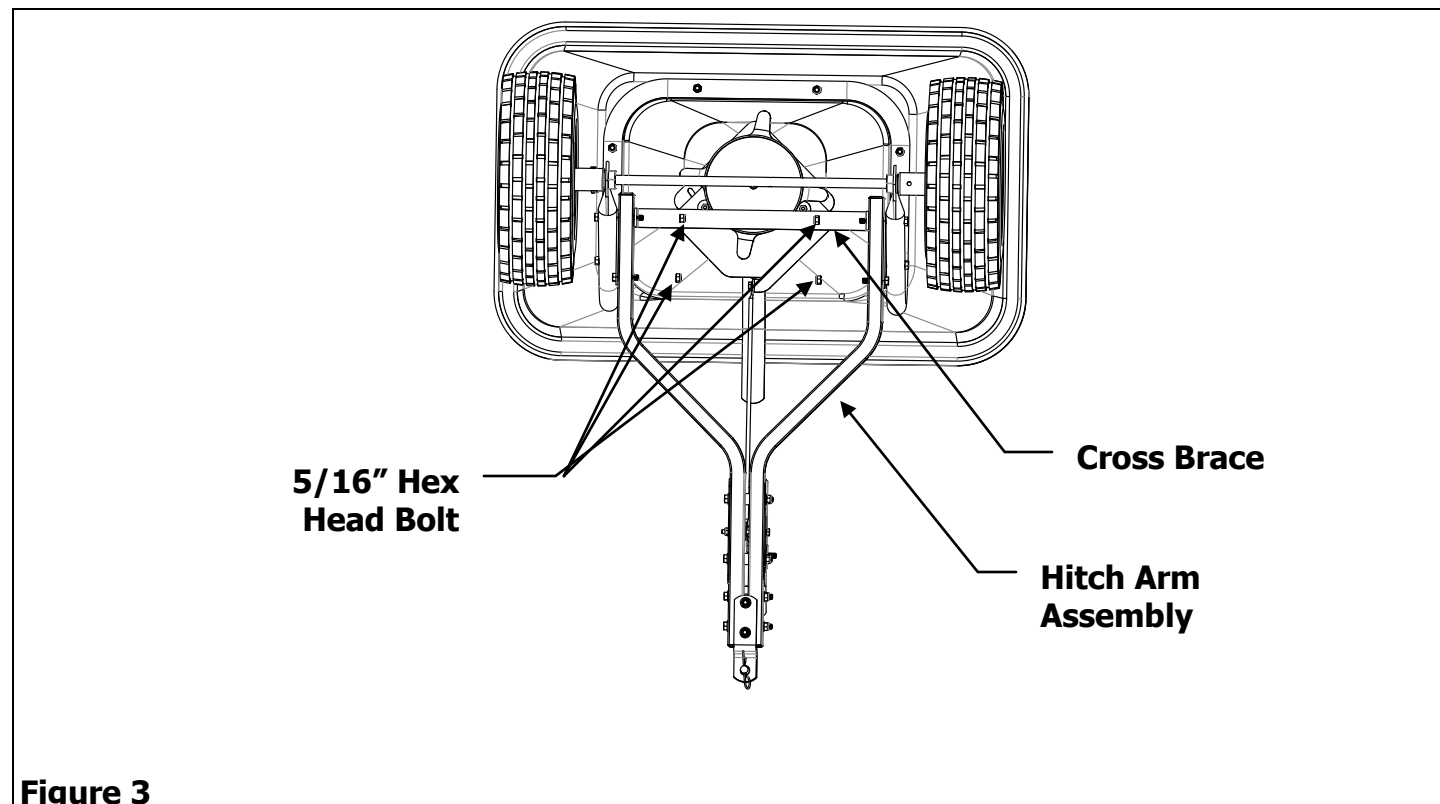

Figure 3
4. Remove the 1/4" x 1" Hex Head Bolt and 1/4" Nylock Nut from the end of the Control Rod. Attach the Control Rod to the Slide Plate on the Hopper Assembly using the 1/4" x 1" Hex Head Bolt first place one 1/4" Flat Washer onto bolt, insert bolt through hole in Connect Rod and place another 1/4" Flat Washer on to the bolt, then insert bolt through hole on the front of the Slide Plate, place another 1/4" Flat Washer and secure with 1/4" Nylock Nut. See Figure 3.